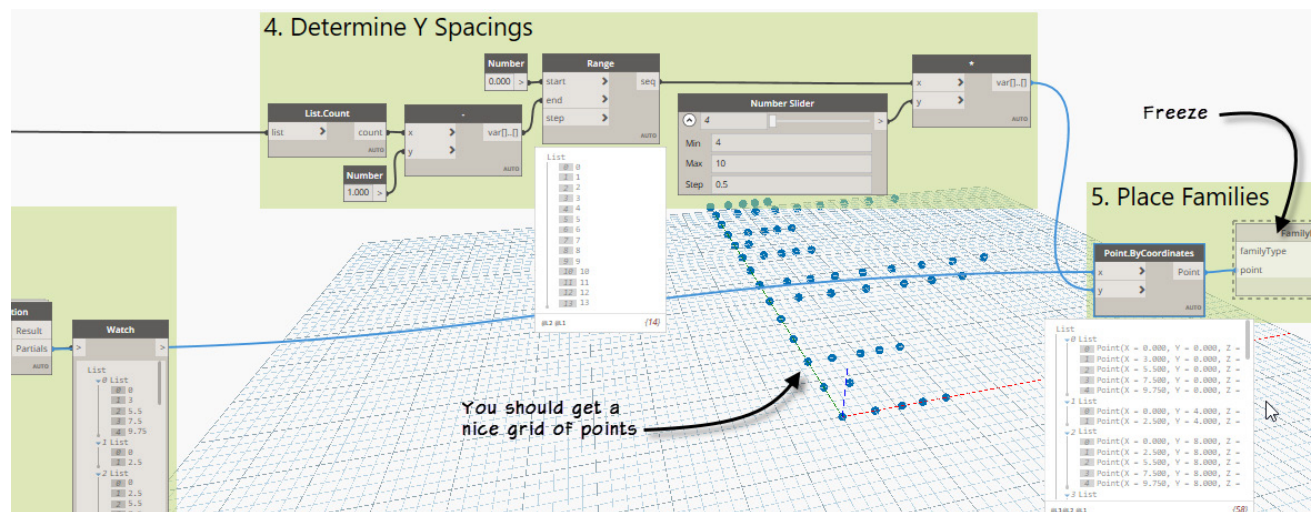

FIGURE 57
42. In group 5, right-click the **FamilyInstance.ByPoint** node and choose: **Freeze**, then run the graph (see Figure 57).